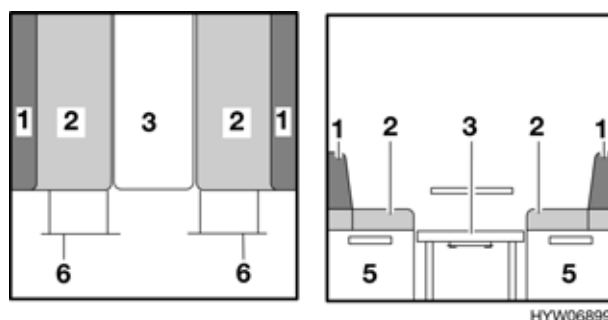

Fig. 74 During conversion
- Pull out the bedding box extension (Fig. 74,6).
- ▷ Depending on the model an enclosed additional cushion must be used instead of the back cushion (Fig. 74,1).